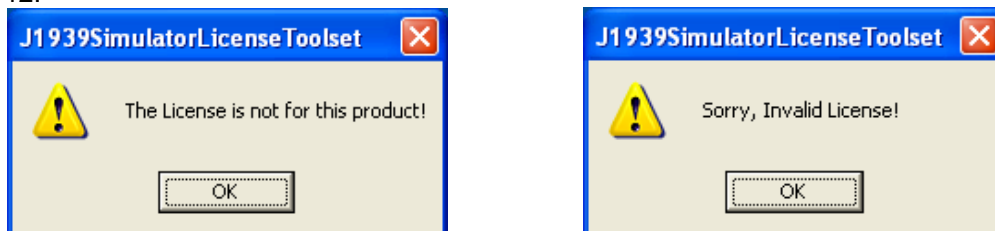

Figure C-12 – Warning message boxes show up if license is not valid
3. Au J1939 Simulator License Toolset will check if entered license number is valid or not. If not, "the license is not for this product" message window will show up, click OK, "Sorry, Invalidate license!" then show up, click OK, (Figure C-12).